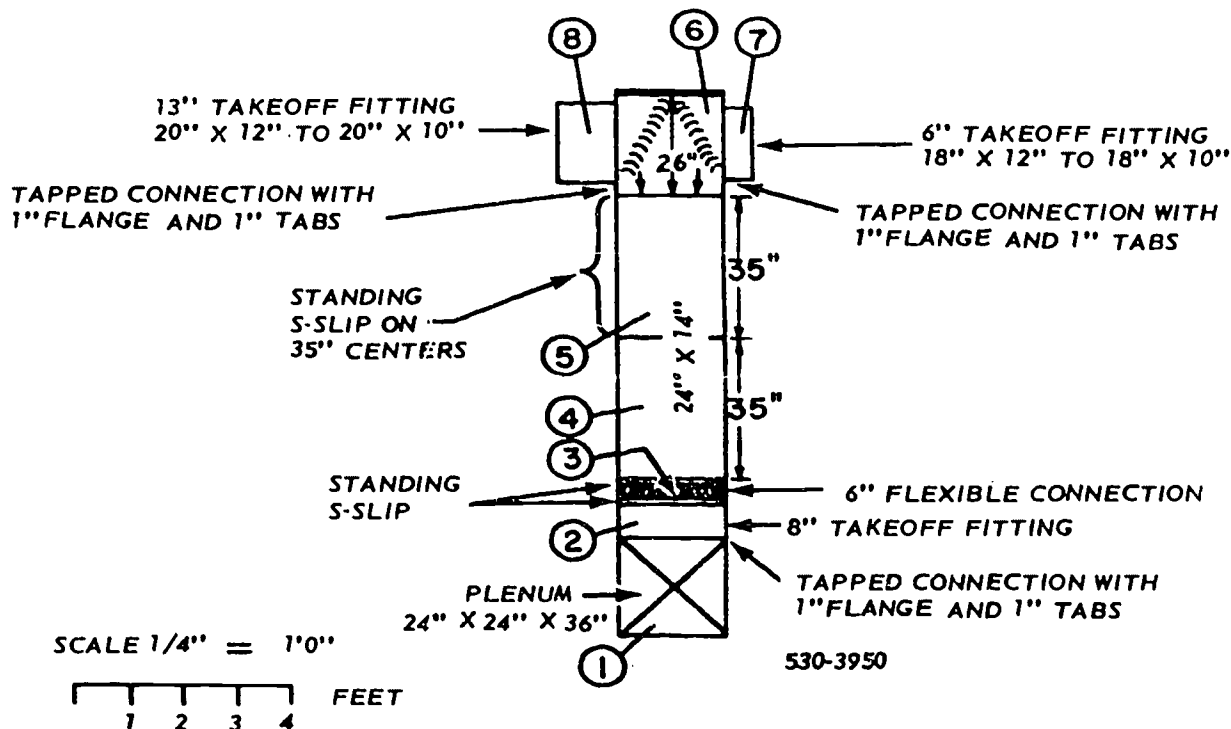

Figure 4-2. Breakdown of plenum and trunkline A.
**Exercises (437):**
**Trunkline A and Plenum.** Figure 4-2 is a breakdown of trunkline A in foldout 1. This shows how you divide trunkline A into joints and takeoff fittings. To break down a trunkline like this, your first step is to make a scale drawing of the plan view, showing only the outline of the trunkline. Since trunkline A is connected to the supply plenum of the heating and air-conditioning units, the plenum is also included in the drawing. As stated earlier in this chapter, the plenum is 24 inches wide, 36 inches high, and 24 inches long. Trunkline A is 24 inches wide, 14 inches high, and 9 feet 2 inches long. No joint connection allowances are needed for either the top or bottom of the plenum.
Thus far the material required for the two patterns has been determined, and you can see that you need one whole 3' x 10' sheet (with 36" x 22 3/4" left over) and another sheet from which the 28" x 28" cover can be made. This indicates that you need some sort of bookkeeping system to identify the parts by size and quantity, to identify the sheet from which the pattern will be cut, and to indicate how many and what size of sheets you need. Figure 4-3 is an example of such a record. You will find that it is also helpful to make a sketch of each sheet of metal, showing how the patterns should be arranged to avoid unnecessary waste. Figure 4-4 shows how the trunkline and plenum can be made from four sheets. The sequence for determining the size and quantity of sheets required is to: (1) make a drawing, like figure 4-2, to show the dimensions of the ducts and joints; (2) start a materials-required list, like figure 4-3, and (3) make sketches of the sheets, as in figure 4-4.
Trunkline A has the same dimensions (24" x 14") for its entire length. Therefore, its stretchout, including Pittsburgh lock seam allowance, is 77 1/4 inches. Its length, as previously determined, is 9'2", which can be divided into joints as shown in figure 3-2. Beginning with joints 4 and 5, you should enter the pattern dimensions and requirements on lines of the materials chart (fig. 4-3). These patterns, including allowances, are each 36" x 77 1/4" and should be made from two 3' x 10' sheets with two 36" x 42 3/4" pieces left over. (One of these leftover pieces can be used to make the plenum cover.) You determine these dimensions by making sketches of sheets 2 and 3, as shown in figure 4-4. In figure 4-2, you can see that joints 4 and 5 occupy only 70 inches of the total length (110 inches) of trunkline A. This leaves 40 inches for joints 2, 3, and 6.
and 6. In figure 4-2, you can see how these 40 inches are used to make joints of appropriate sizes. Joint 6 is shown to be on 26-inch centers and is connected to joint 5 with S-and-drive slips. The pattern for joint 6 measures 26½" x 77¼", which will need part of another whole sheet (sheet 4, fig. 4-4), with two leftover pieces. One of these pieces is large enough to make the 18" x 28" end cover for joint 6. The joint 6 entry is now made in figure 4-4, and the sketch made on figure 4-3 for joint 6 and its end cover. This end cover is to be installed with standing S-seams similar to those for the plenum cover.
Joint 7 in figure 4-2 is a takeoff fitting 6 inches long, which reduces from 18" x 12" to 18" x 10". It has a tapped connection at one end and S-and-drive connections at the other. Since this transition tapers on two sides, it should be made in four pieces with four Pittsburgh lock seams. The pattern for each piece is 9½ inches wide (6-inch length plus 3-inch allowance for the tapped connection and 1/2-inch allowance for the S-and-drive connection.) The two patterns for the top pieces are 9½" x 20" (2 inches are allowed to make the pockets for the Pittsburgh lock seams). The two patterns for the side pieces are 9½" x 12½" (1/2 inch is allowed to make the 1/4-inch flanges for the Pittsburgh lock seams). These four pieces are entered as line items in figure 4-3. Notice in the sketches that the piece left over from the joint 6 end cover (sheet 4) is large enough to make two top pieces 9½" x 20". Also, notice that the two 9½" x 12½" side pieces are made from sheets 2 and 4.
Joint 8 in figure 4-2 is a takeoff fitting 8 inches long, which reduces from 20" x 12" to 20" x 10". It is the same shape as joint 7 but has different dimensions. Joint 8 will require four pieces and four Pittsburgh lock seams. The two 11 1/2" x 22" pieces for the top and bottom can
The last step in determining the size and quantity of material for trunkline A involves the standing S-slips and-drive slips that connect the joints. In figure 4-2 you can see that S-and drive slips are used in four places. This means that you need 8 standing S-slips, with 5 1/2" x 23 3/4" of metal each. The 8-drive slips need 2 1/4" x 16"